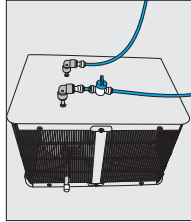

Figure 11
- 7.2 Close the shutoff valve, or shut off water supply to cooler (Figure 11).